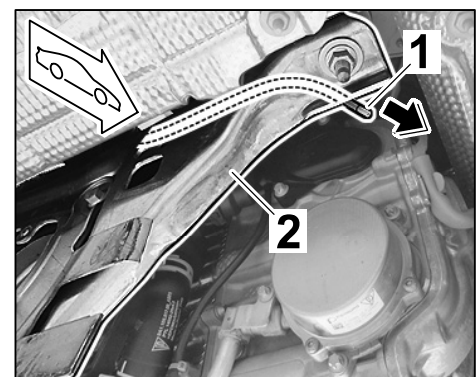

Figure 12
2.4.2 Pull standard vacuum line \Rightarrow Figure 12 -**1**- out of the engine carrier \Rightarrow Figure 12 -**2**-.